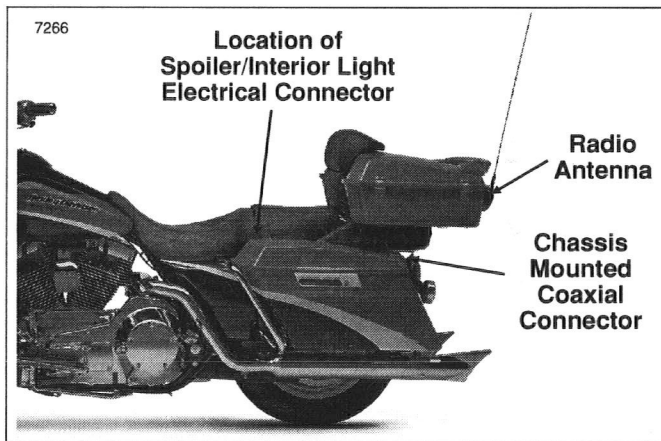

Figure 24. Tour-Pak Electrical Connections
1. See Figure 24. Loosen the set screw at the radio antenna base using a M4 allen wrench.
4. See Figure 24. Disconnect the coaxial radio antenna cable leading from the Tour-Pak to the top of the chassis mounted coaxial adapter.
5. See Figure 24. Connect the 4-pin electrical connector going to the Tour-Pak spoiler/interior light, and tuck under seat.